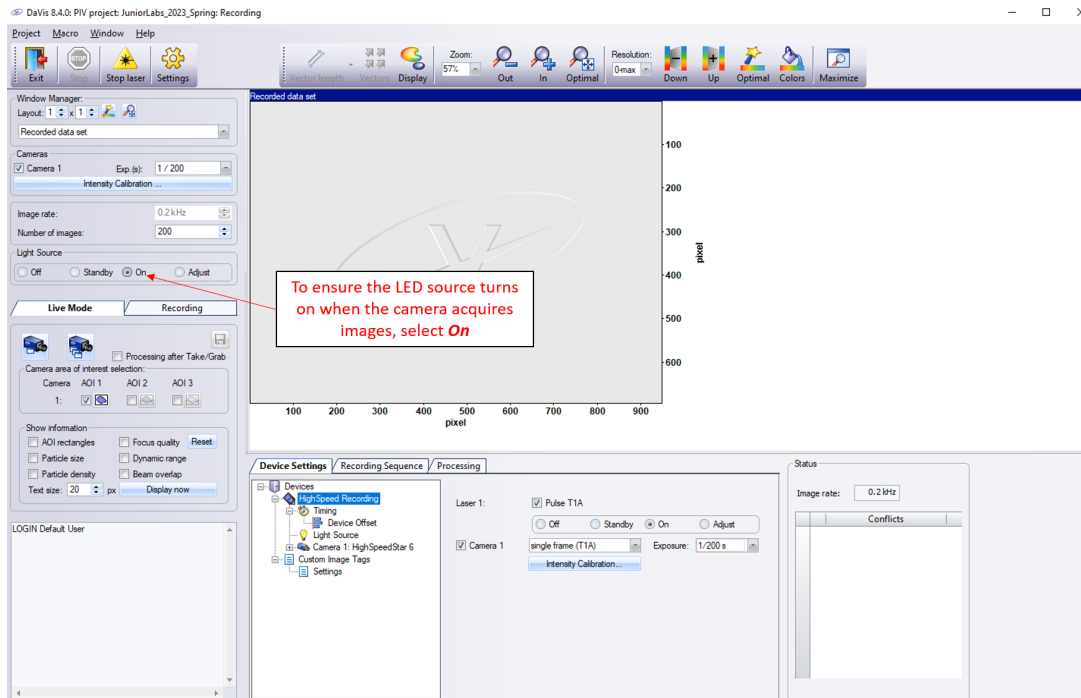

Figure 5: Light Source options setting for acquisition
- Under Light Source, click “On”, see Figure 5. This will enable the LED light source upon data acquisition. Try using ”Adjust” and see on the live webcam what happens with the light source? Once you are done, make sure to choose the “On” setting.